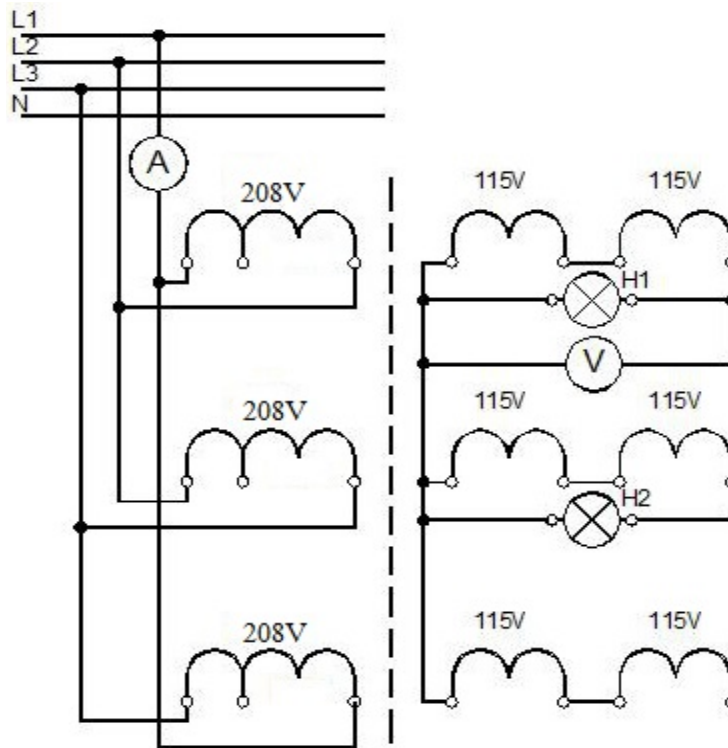

Figure 13:
1. Wire up the circuit in accordance with the set-up and wiring diagram of Figure 13.